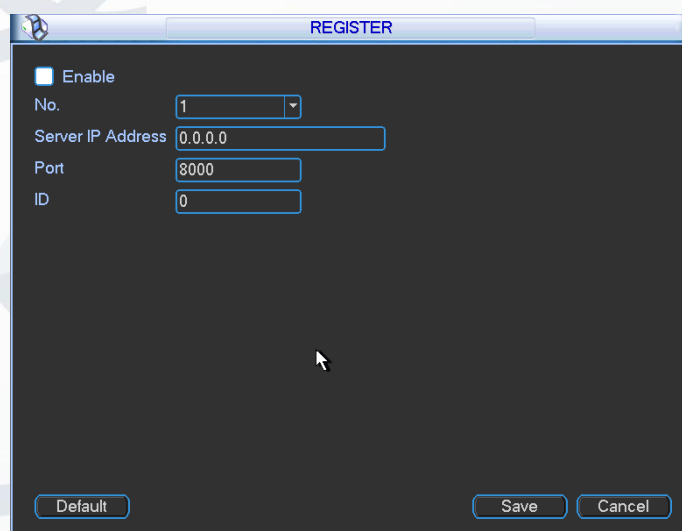

Figure 5-38
1) The setup interface is shown as in Figure 5-38.
- 3) Now you can add device. Please do not input default port number such as the TCP port in the mapping port number. The device ID here shall be the same with the ID you input in Figure 5-38. Click Add button to complete the setup.